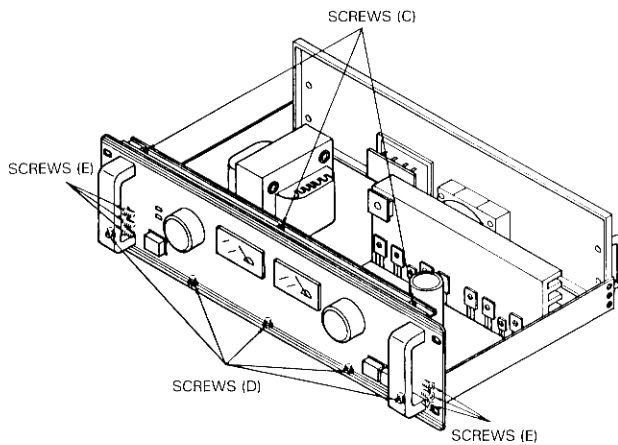

Fig. 2
- (a) Remove 3 screws (C). (Fig.2)
- (b) Remove 5 screws (D). (Fig.2)
- (c) Remove 6 screws (E). (Fig.2)